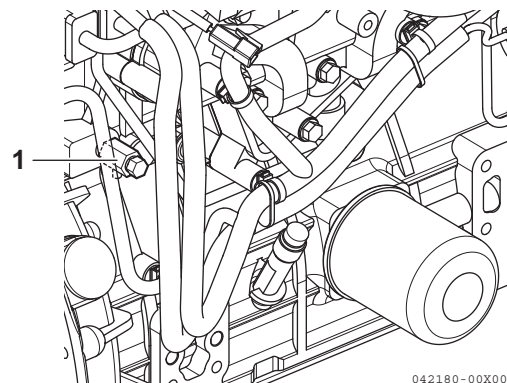

Figure 5-16
- Remove the coolant hose (**Figure 5-16, (1)**) from the oil cooler if your machine is equipped with an oil cooler.